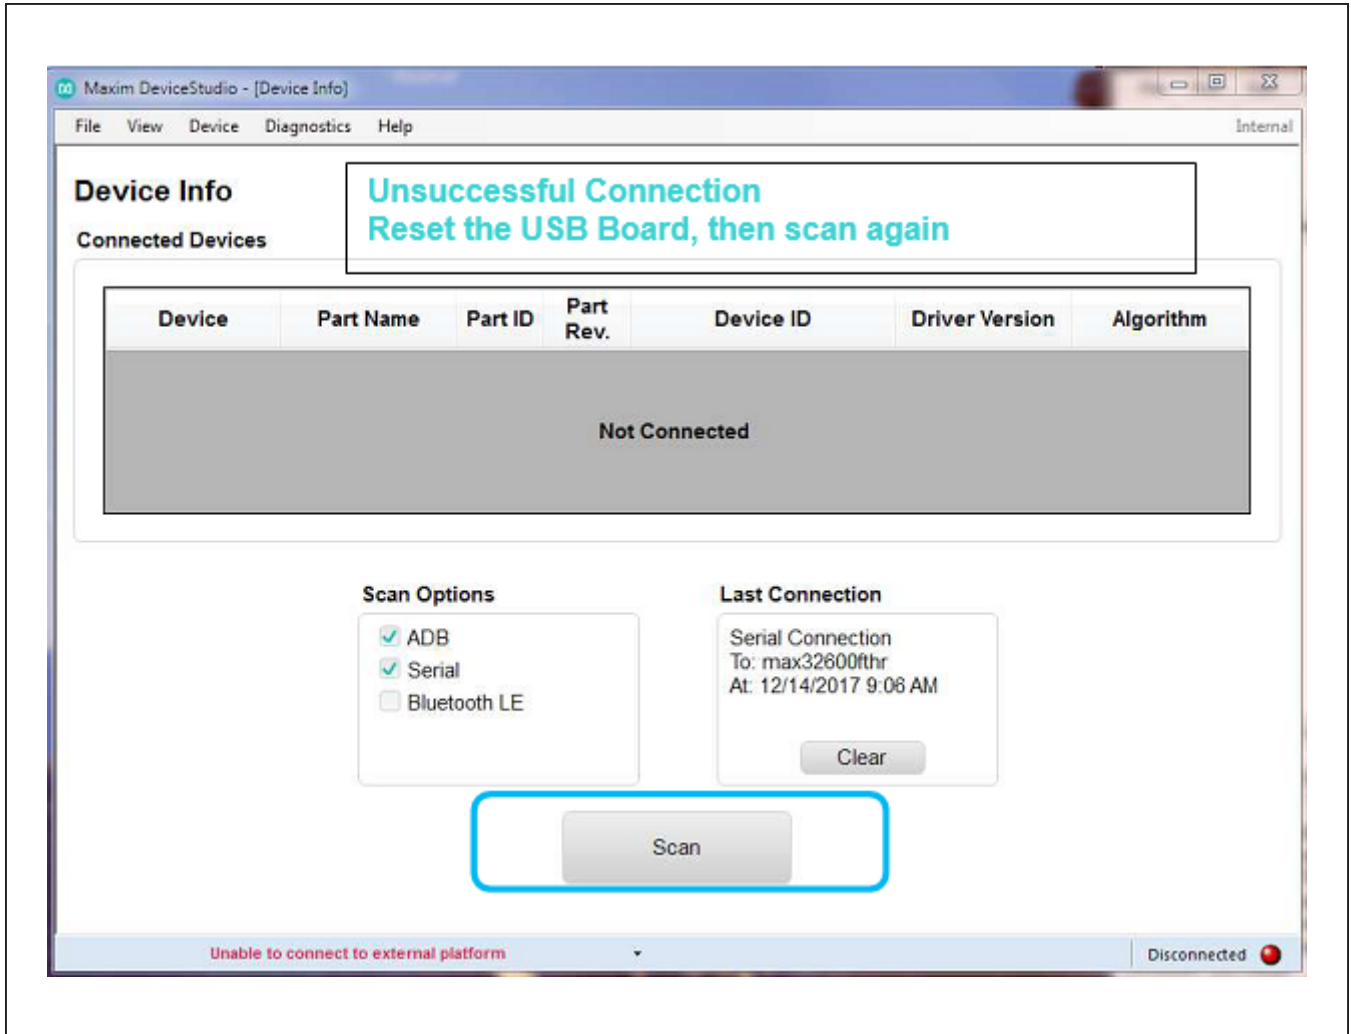
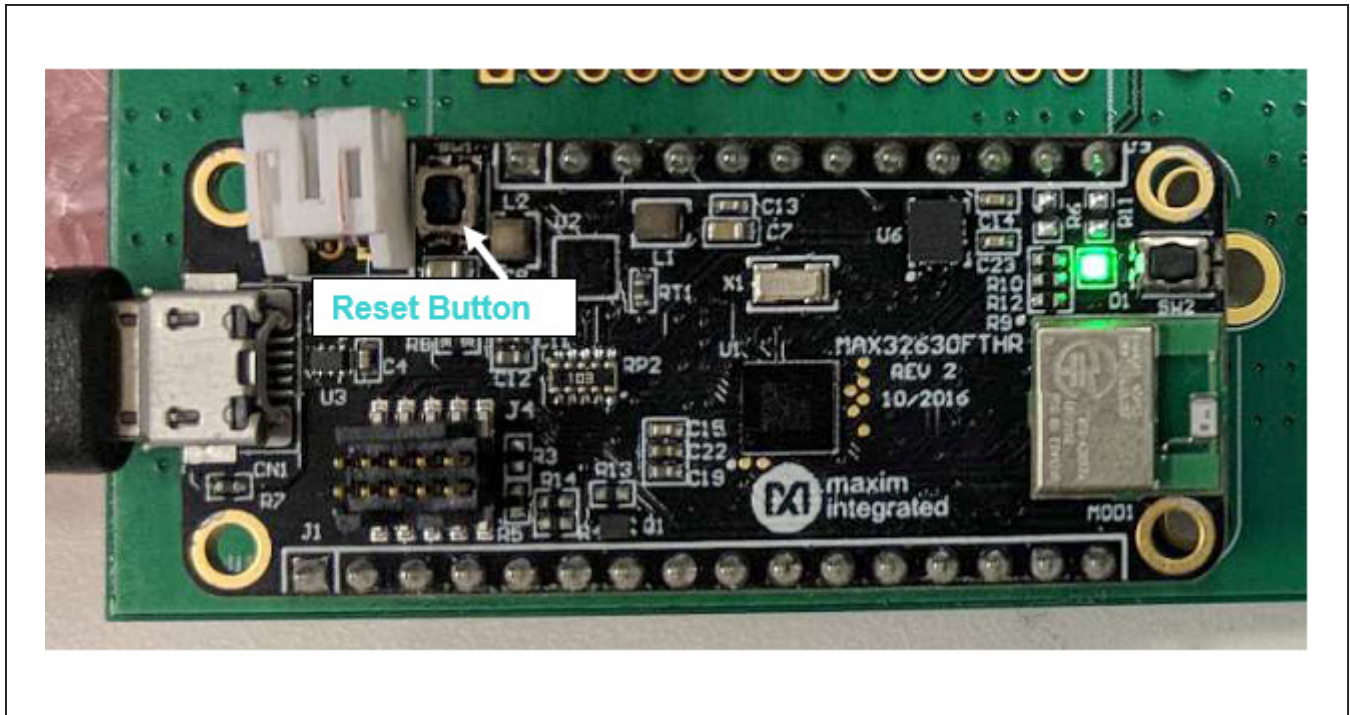

Figure 3. MX3523 EV Kit GUI, Unsuccessful Connection
Figure 4. MAX3523 EV Kit USB Communication
- 5) In rare case DeviceStudio fails to find MAX3523 EV Kit, push the reset button (see Figure 4), hold for 2 seconds, and release. Then click the Scan button at DeviceStudio (see Figure 3).